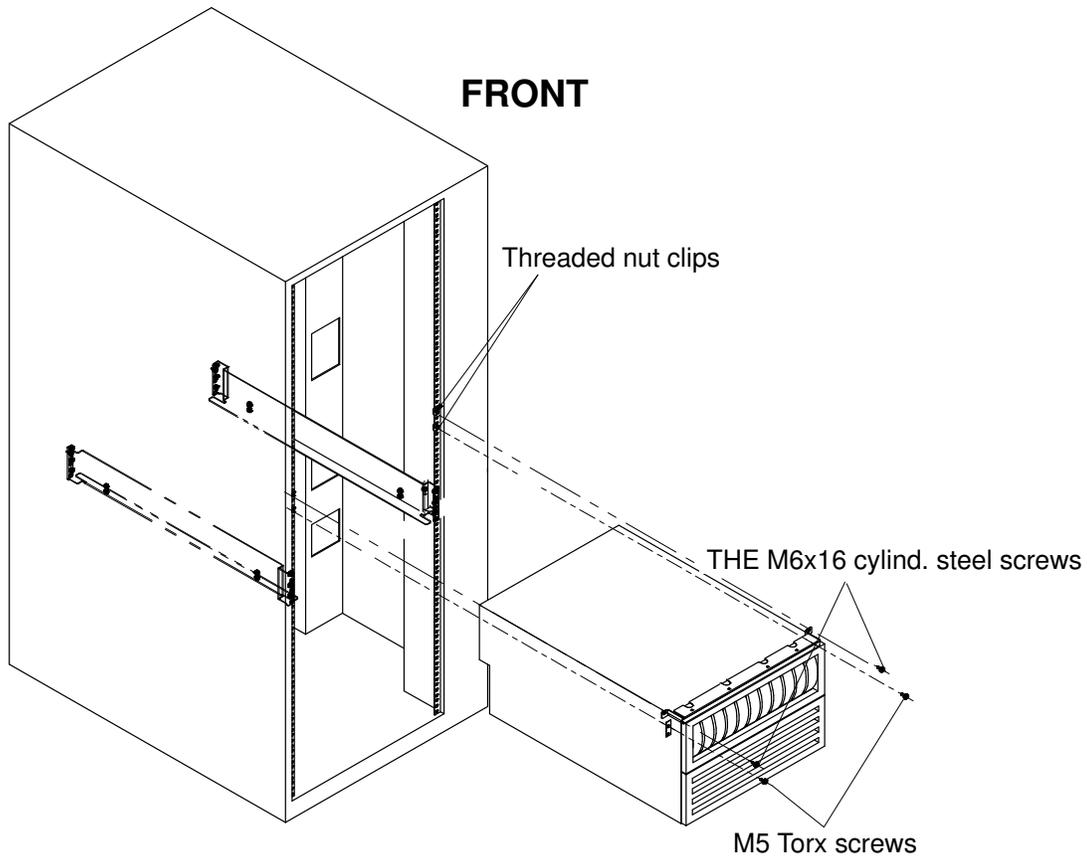

Figure 11. Positioning and securing the DAS 5700/4500
3. Carefully position the DAS 5700/4500 drawer onto the rails (see Figure 11).